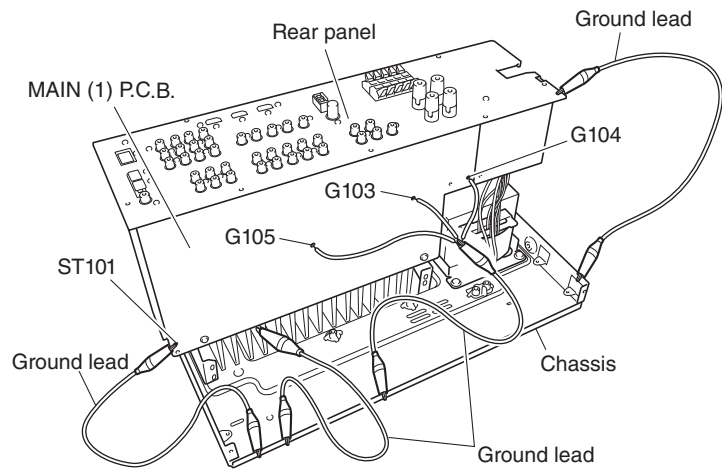

Fig. 5
- d. Place the P.C.B.s (with rear panel) upright. (Fig. 5)
- e. Connect the ground of heat sink, rear panel and MAIN (1) P.C.B. (G103, G104, G105 and ST101) to the chassis with a ground lead or the like. (Fig. 5)